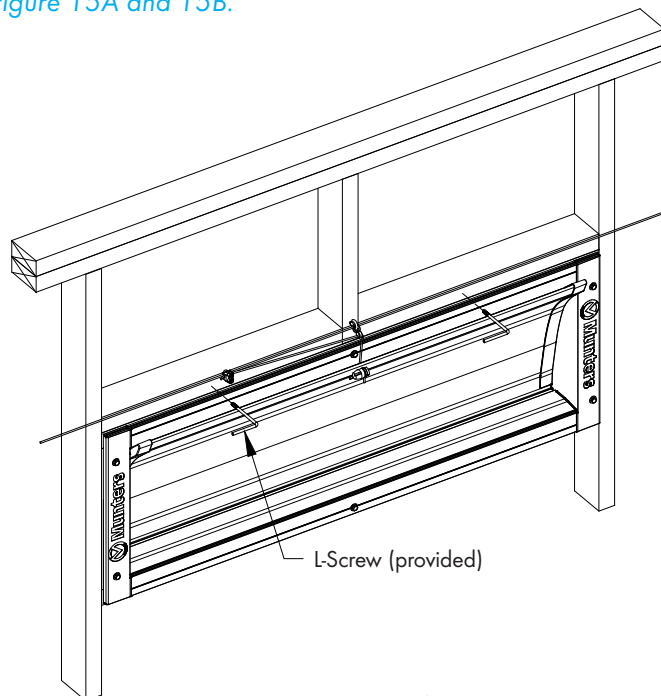

Figure 15A
Locate (2) L-Screws 1/2" [1.2cm] above Top Header and evenly space across the inlet. Thread L-Screws in far enough to hold the door in the close position. Make sure L-Screw does not interfere with the Lift Line or Main Rod or Cable. See Figure 15A and 15B.